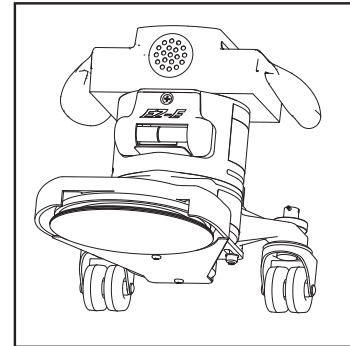

Figure 5
This machine must be connected to the electrical ground to protect the operator from electric shock. The machine has a power cord with two main conductors and one earthing conductor. Connect the plug to the type of receptacle shown in figure 5. The green and yellow conductor cord is the ground wire. Never connect this wire to any terminal other than the ground terminal.
3. With the machine in the reclined position firmly grasp both handles and flip the control switch to the "ON" position. (Figure 5.)